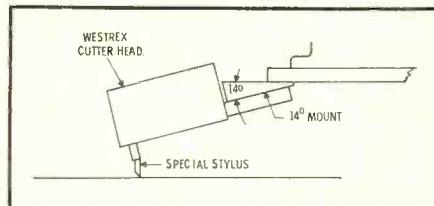
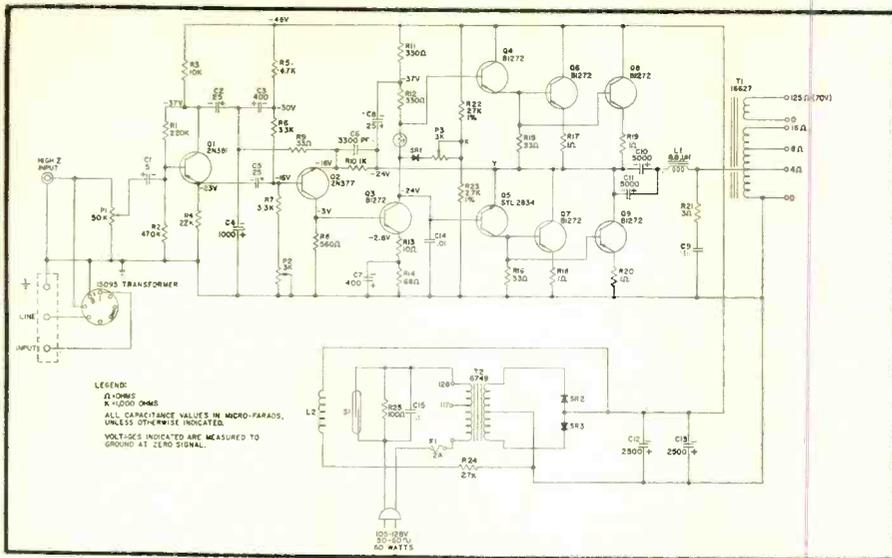

Fig. 4. Modifications of the Westrex cutter for producing a 15-deg. modulation angle.
Fig. 2. Schematic of the Model 351A.
Fig. 2. (A) Square wave applied to the cutter amplifier. (B) Motion of recording stylus. (C) Sarcophagus pattern produced by slanted cut. (D) Rhombus pattern with 0-deg. modulation slant.
vertical modes. This record became the CBS Laboratories Stereophonic Test Record STR-110. The STR-110 indeed represents the type of modulation obtained with the standard Westrex cutter system. Upon replay of the vertical square wave, it was noticed on the oscilloscope that the lengths of the two halves of the reproduced wave were slightly unequal. Fortunately, we did not yield to the temptation of overlooking this phenomenon, but instead proceeded to examine the groove with a microscope. Now, as shown in Fig. 2, a square wave (A) becomes a triangular wave (B) on a velocity basis, and when such a wave is recorded in the vertical mode with a cutter having a recording angle other than 0 deg., the peaks of the wave are shifted along the recording line from  $a$  to  $b$ , so that the recorded groove presents a sarcophagus pattern (C). Of course, when such modulation is played with a pickup having an appropriate vertical tracking angle, symmetry is restored and a perfect square wave is reproduced. However, microscopic examinations of the modulation of the STR-110 revealed not a sarcophagus pattern but a rhombus pattern (D) which implied that the 23-deg. recording angle produced near-0-deg. slant modulation!
in Fig. 2. Initially the lacquer is in an unstressed condition. As the disc advances to the left so that successive horizontal intervals pass by the cutter, the tip of the stylus moves along the slant lines, and cuts the shape  $a-b-c$ . While the cutting action takes place, the shearing forces push the material forward, as shown by the slanted dash lines, the slant being proportional to the depth of cut, and greatest at  $b$ . As the cutter emerges at  $c$ , the stress again is diminished. After the cutter has passed by any point, the material springs back taking on the form shown in (B) of Fig. 3. It is seen that the triangle  $a'-b'-c'$  has an equivalent vertical modulation slant C which is smaller than the recording angle B by the amount of a springback angle S, which is commonly 20 deg. This explains why a Westrex cutter with a 23-deg. recording angle produces a modulation slant only one-tenth that amount. It has been determined experimentally that the cutter must be inclined by an additional 14 deg. to end up with a 15-deg. modulation angle. The adjustment of cutting angle is made conveniently by adding a 14-deg. wedge to the cutter mount, and using a special stylus with 14-deg. tip orientation, as shown diagrammatically in Fig. 4. A new test record, the STR-111, was recorded in this manner and demonstrated at the 1962 Fall National Convention of the Audio Engineering Society. The resulting modulation slant of the STR-111 is just about 15 deg. The square-wave modulation now has the desired sarcophagus shape shown by the
Fig. 2. Circuit of the tuner-oscillator and power supply. Oscillator stability is improved by the use of a premium-type 5751, by voltage regulation from the OA2, and by separation of the oscillator from the power-supply. This latter precaution minimizes temperature drift.
cies. Although the oscillator range is only 0.4 of a cycle, it is divided into 80 dial divisions, each of which can also be visually divided. In addition to stability the tuner-oscillator must have frequency-controlling components that can be calibrated accurately with available equipment. The circuit diagram shown in Fig. 2 meets these requirements; the only additional equipment required is a clock or watch having a second hand.